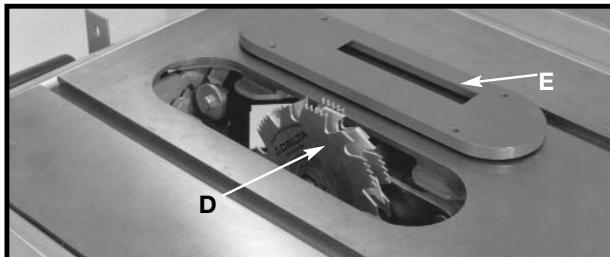

Fig. 51
- Attach the dado head set (D) Fig. 51, to the saw arbor.
⚠ WARNING: THE ACCESSORY DADO HEAD SET TABLE INSERT (E) FIG. 51, MUST BE USED IN PLACE OF THE STANDARD TABLE INSERT.